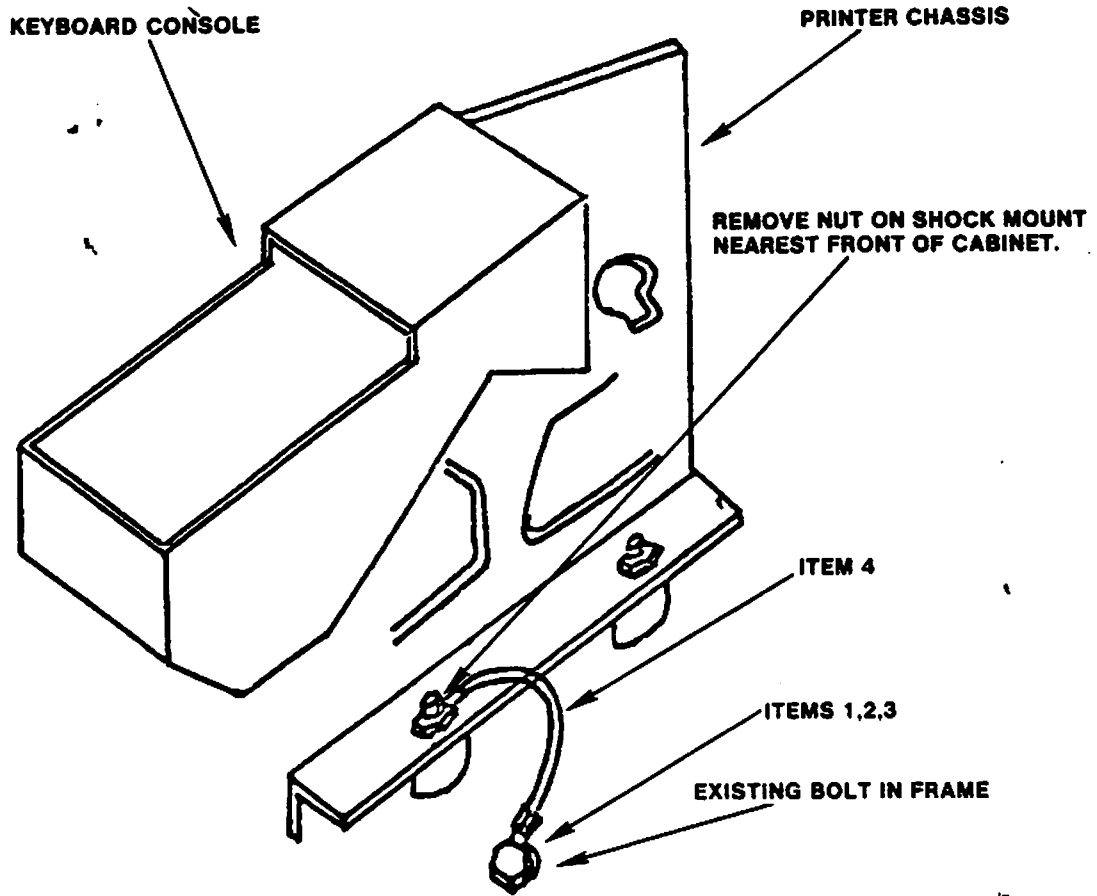

FIGURE 1 - GROUND STRAP INSTALLATION
2. Remove the nut on the front shock mount for the end of the printer chassis on which the keyboard is located. The proper nut is indicated in Figure 1.
3. Install as short a wipe and lug assembly (Items 1, 2, 3 and 4) as is practical between the shock mount stud and the nearest frame bolt as shown in Figure 1.